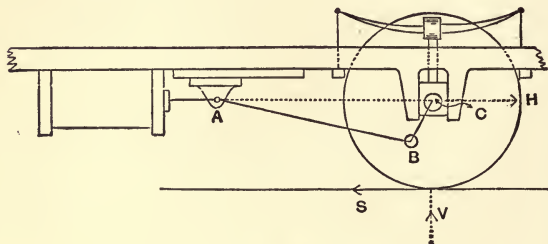

Fig. 4.
4. For the outside cylinder locomotive diagrammatically represented in fig. 4 a close approximation to the inertia effects of the connecting rod is obtained by considering its mass to consist of 80 lbs. and 240 lbs. concentrated at  $A$  and  $B$  respectively. The length of the C.R. is 6 feet, the length of the crank is 12 inches, the diameter of the driving wheels is 5 feet, the combined mass of the piston, piston-rod and cross-head is 170 lbs., the downward pressure on the wheel exerted by the spring is 20,000 lbs., and the engine is running at a speed of 60 miles per hour. Consider the position defined by  $ACB = 45^\circ$ , in which the thrust on the piston due to steam pressure is 10,000 lbs.